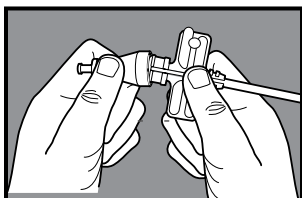

Figure 1
12. Once assembly is fully introduced into the venous system, separate the dilator cap from the sheath valve housing by rocking the dilator cap off the hub. (see Figure 1)